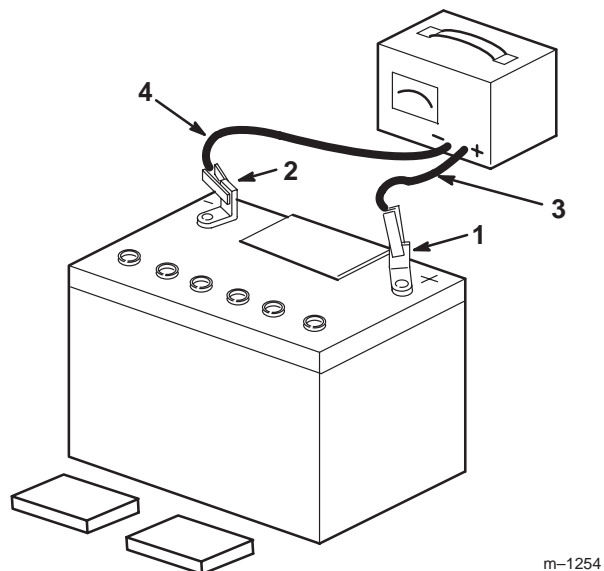

Figure 6
8. Leave the covers off and connect a 3 to 4 amp battery charger to the battery posts (Fig. 6). Charge the battery at a rate of 4 amperes or less for 3–5 hours (12 volts).
9. When the battery is fully charged, disconnect the charger from the electrical outlet then from the negative and positive battery posts (Fig. 6).